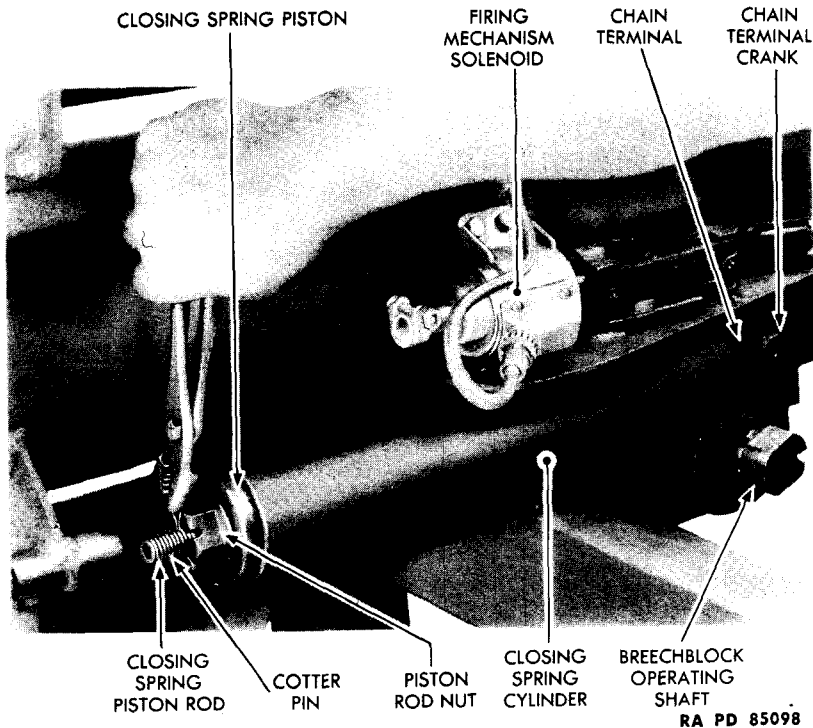

Figure 45 – Adjusting Closing Spring Compression
(6) Slide closing spring on rod and into cylinder (fig. 17). Place piston with its machined concave surface against the convex surface of piston rod nut and install piston and nut on rod (figs. 15 and 17). Temporarily install cotter pin in spring piston rod until final adjustment (fig. 45).
i. Adjust Closing Spring Compression. If compression on spring is too great, the breechblock will return to its closed position with too much shock, or, conversely, if spring compression is too light, the breechblock will not close completely. To make adjustment of spring, remove cotter pin from piston rod (fig. 45), then tighten or loosen piston rod nut as desired (fig. 14). When desired compression is obtained, align slot in castellated piston rod nut with nearest of holes provided in piston rod, and secure in this position by installing
cotter pin through slot in nut and hole in rod (fig. 45). The closing spring piston rod nut should be screwed on the piston rod until a cotter pin can be inserted in the fifth hole in the piston rod. This nut may be tighter if the spring fails to close the breechblock properly.